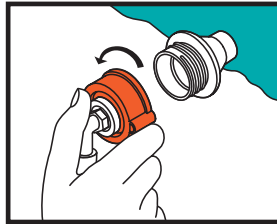

Figure 8 Deflating Overlay for CPR
1. Unscrew the hose connector cap from the overlay. The overlay will deflate in four to five (4 to 5) seconds (See Figure 8).